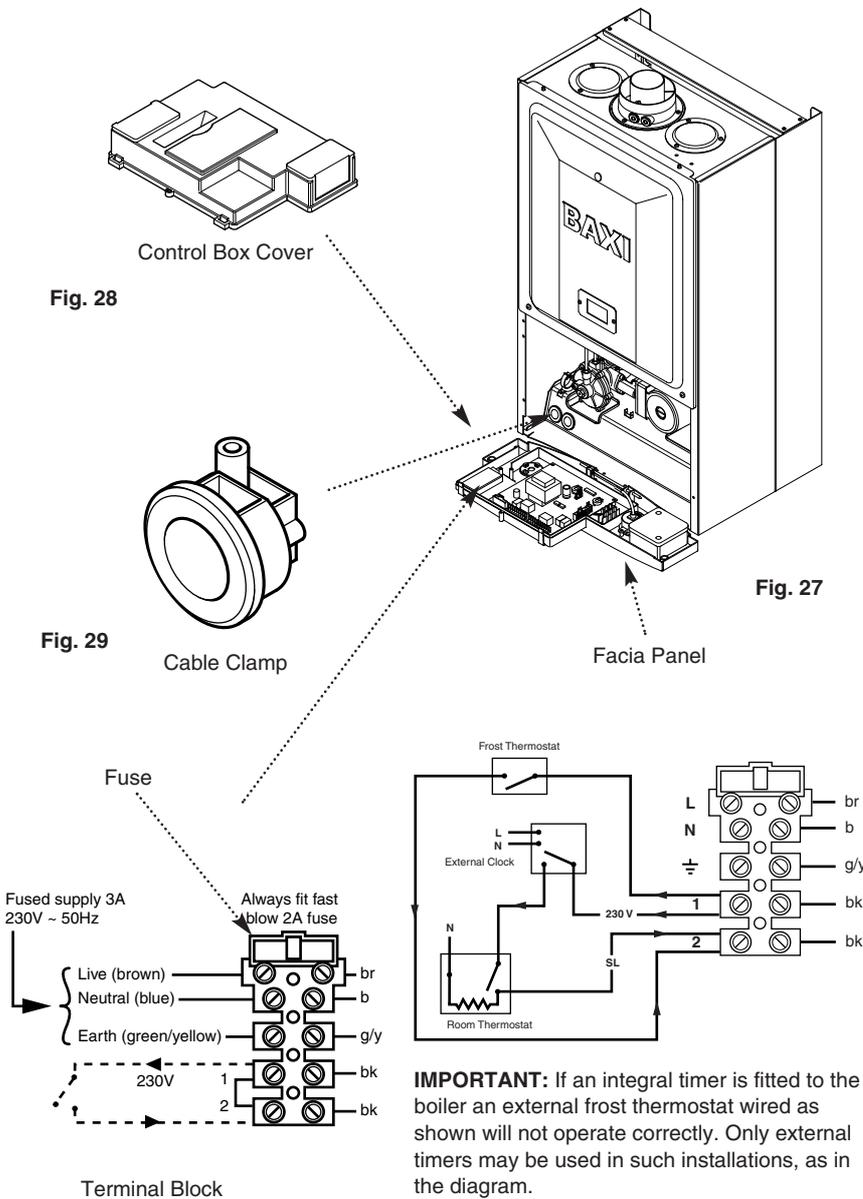

Fig. 30
7. To connect external control(s) remove the link between terminal 1 & 2. The 230V supply at terminal 1 can be connected to the external control. The switched output from the external control must be connected to terminal 2 (Fig. 30).
NOTE: If the room thermostat being used incorporates an anticipator it **MUST** be wired as shown in Fig. 30.